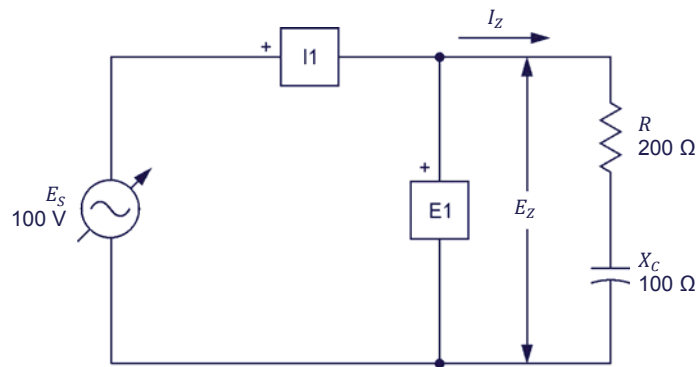

Figure 2-19. Series ac circuit containing a resistor and a capacitor.
- 32.** Set up the circuit shown in Figure 2-19.